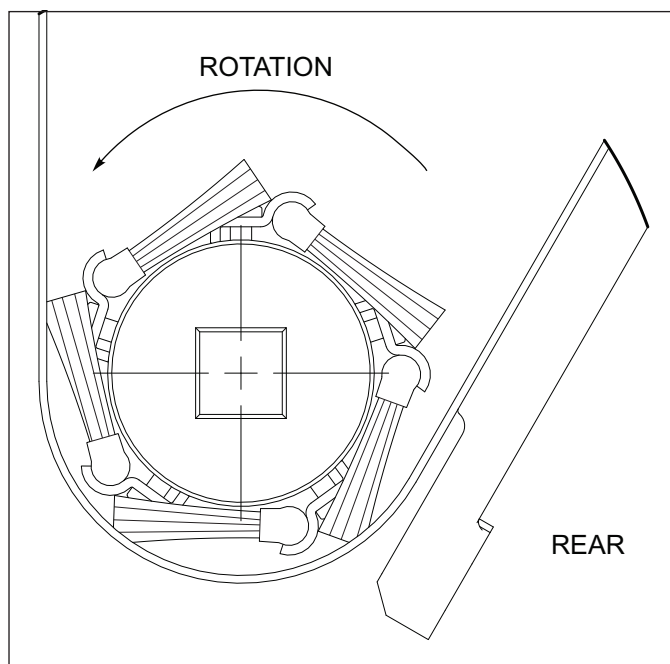

Figure 2-48: Brush Agitator Shaft Rotation
5. See the above Shaft Rotation Diagram. **See Figures 2-48 and 2-49.** Brush/Blade agitators must be installed with careful attention to the direction of shaft rotation. The brushes must face backward, away from rotation to wipe over the seed openings.